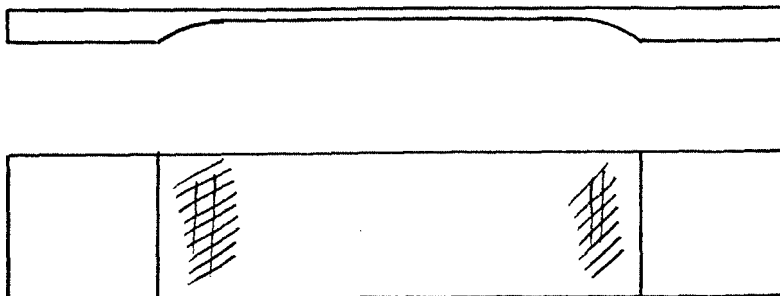

Figure 1
4.4 The bars shall be shaved from the underside (opposite the playing side) in the form of a long shallow arch. (See Figure 1) The degree of shaving and depth of arch shall be determined by the final pitch.